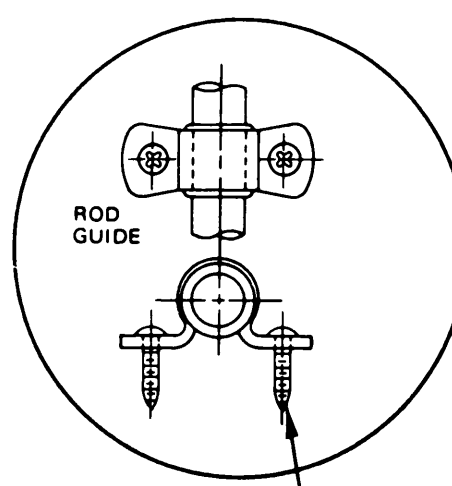
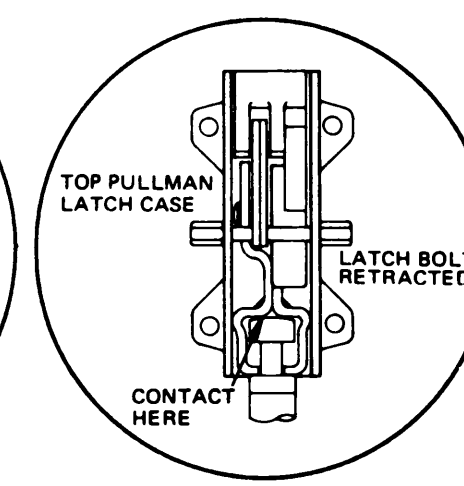

FIG. 3
FIG. 4
- D. Attach top rod with rod guide, see Fig. 3. Adjust rod length so connector fits as shown. (Fig. 4 and 5.)